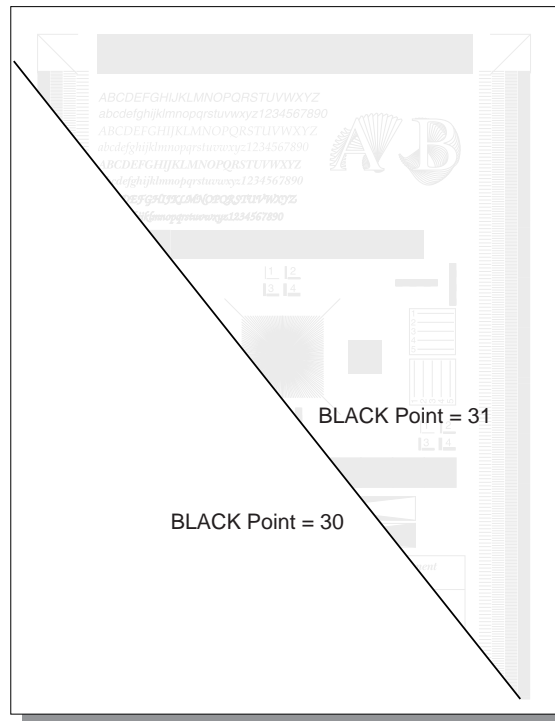

Figure 3-7. White Point
The curve should look similar to figure 3-7.
11. Repeat steps 8 through 10, reducing the BLACK value until there is no image on the page. The BLACK value at which the image just disappears is the **WHITE point value**. In the example in figure 3-7, the final value at which the image disappears is 30.